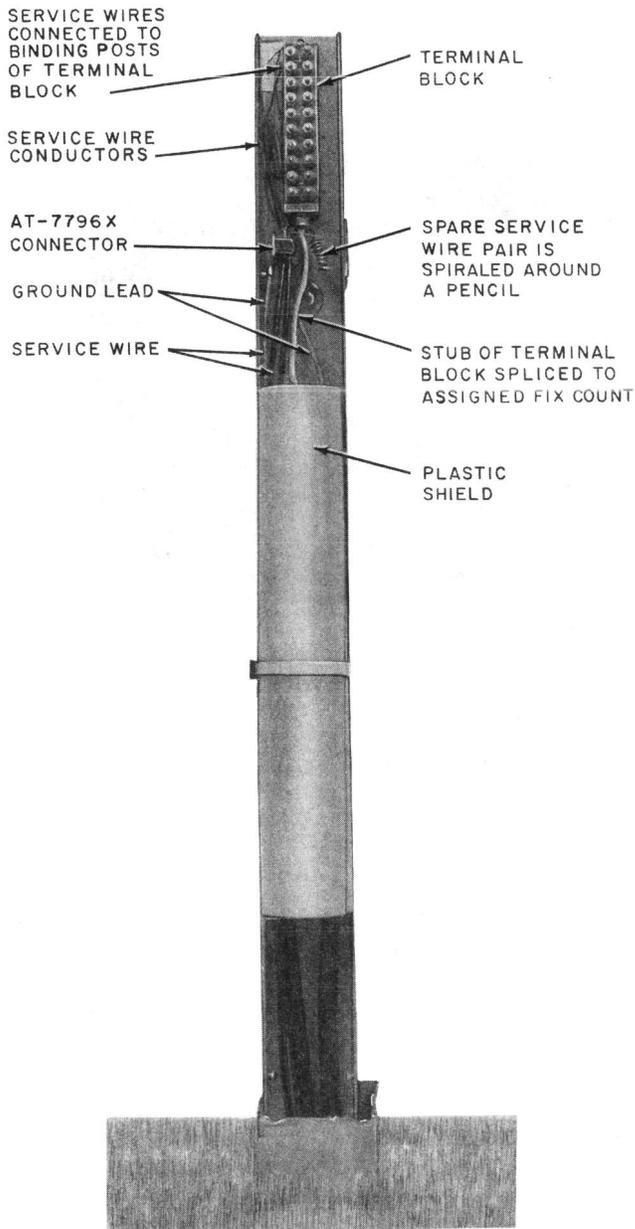

Fig. 8—Service Wires Terminated in RC4/72 Cable Closure
- RC4/72 (Fig. 8)
4.02 Where *fixed count* or *preferred count* termination is desired, run the service wire to the assigned binding post of the terminal block as shown in Fig. 8.